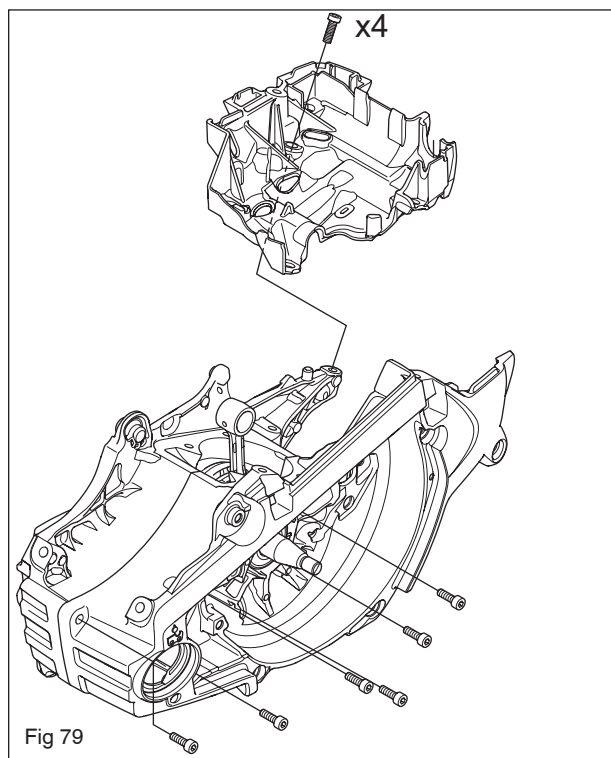

Fig 79
4. Fit the screws. Tighten them alternately. Finally tighten them to 8 Nm. See figure 79.
5. Fit the carburettor bottom with the four screws. Tighten the screws using 5 Nm of torque. See figure 79.